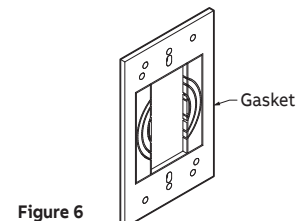

Figure 6
6. Remove the center section of the rectangular gasket (Figure 6).